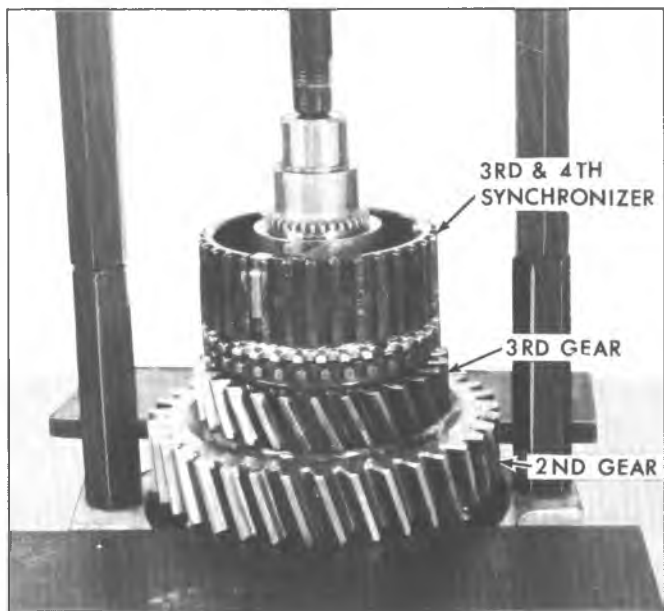

Fig. 15Q--Disassembly of Mainshaft
4. Press behind second speed gear to remove 3rd-4th synchronizer assembly, 3rd speed gear and 2nd speed gear along with 3rd speed gear bushing and thrust washer (fig. 15Q).